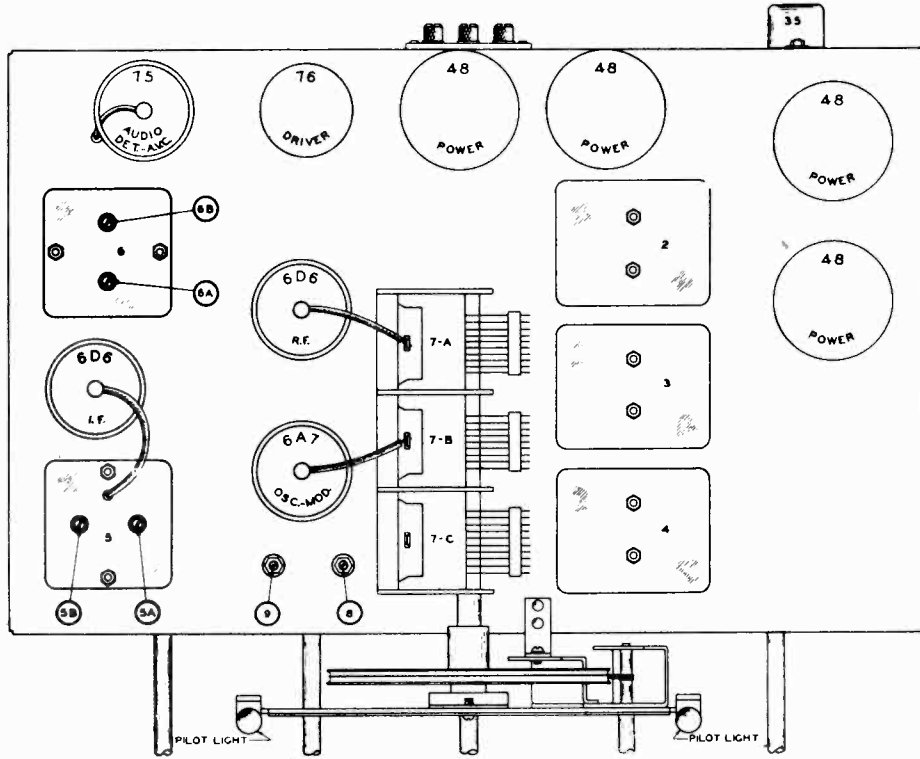

FIG. 2--PARTS LAYOUT--Top View
- (e) Adjust the Red Band "Osc." parallel trimmer, (Fig. 2), for maximum signal output.
- (f) Adjust the Red Band "R-F" parallel trimmer, (Fig. 2), for maximum signal output.
- (g) Adjust the Red Band "Ant." parallel trimmer, (Fig. 2), for maximum signal output.
- (k) Adjust the Red Band oscillator series trimmer (illus. #30A, Fig. 2) while rocking the condenser gang plates back and forth slightly, until no further increase in output can be obtained.
- (d) Peak each of the I.F. trimmers on the 2nd I.F. coil, Illus. #9 on Fig. 2.
- (e) Then peak each of the trimmers on the 1st I.F. coil, Illus. #8 on Fig. 2.
- (c) Readjust the parallel trimmers for the "R.F." and "ANT." sections of the gang condenser (shown on Fig. 2) for maximum output. DO NOT DISTURB the setting of the "OSC." section of the gang condenser as this is adjusted at 1530 K.C. only, and any further adjustments at this point will affect both the tuning range of the receiver and the tracking of its circuits.